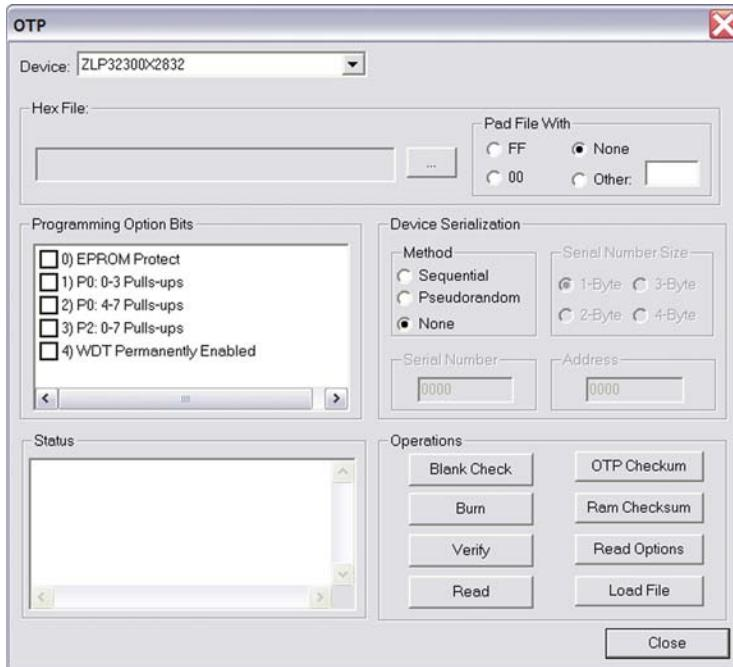

Figure 13. OTP Programming Window (Hex File Example)
7. Select Tools --> OTP Programming to open the OTP window (Figure 13).